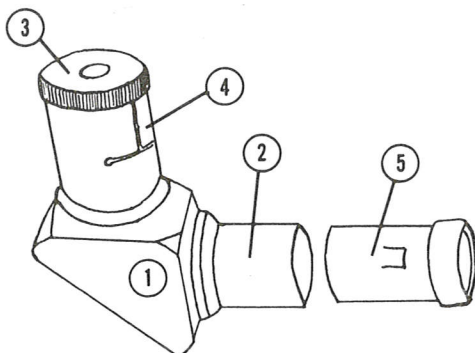

Fig. 4
- 2.) **STAR DIAGONAL & ACHROMATIC AMPLIFIER (Barlow Lens):** (Refer to Fig. 4) The star diagonal (4-1) permits comfortable viewing regardless of the position of the telescope tube. It is for astronomical observation only, as the image viewed when using a star diagonal will be upright, but reversed from right to left. To use the star diagonal, insert the chrome tube without slot (4-2) into the eyepiece holder of the rack and pinion. An eyepiece (4-3) is inserted into the eyepiece holder (4-4) of the star diagonal. The telescope is then focused using the same procedure previously outlined. An Achromatic Amplifier (4-5) is a two-element Barlow-type negative amplifying lens. It is located in the drawtube end of the star diagonal and looks like an eyepiece, but without marking. It will double the magnification of any eyepiece with which it is used. The Amplifier will provide the higher magnifications desired for lunar and planetary observations.